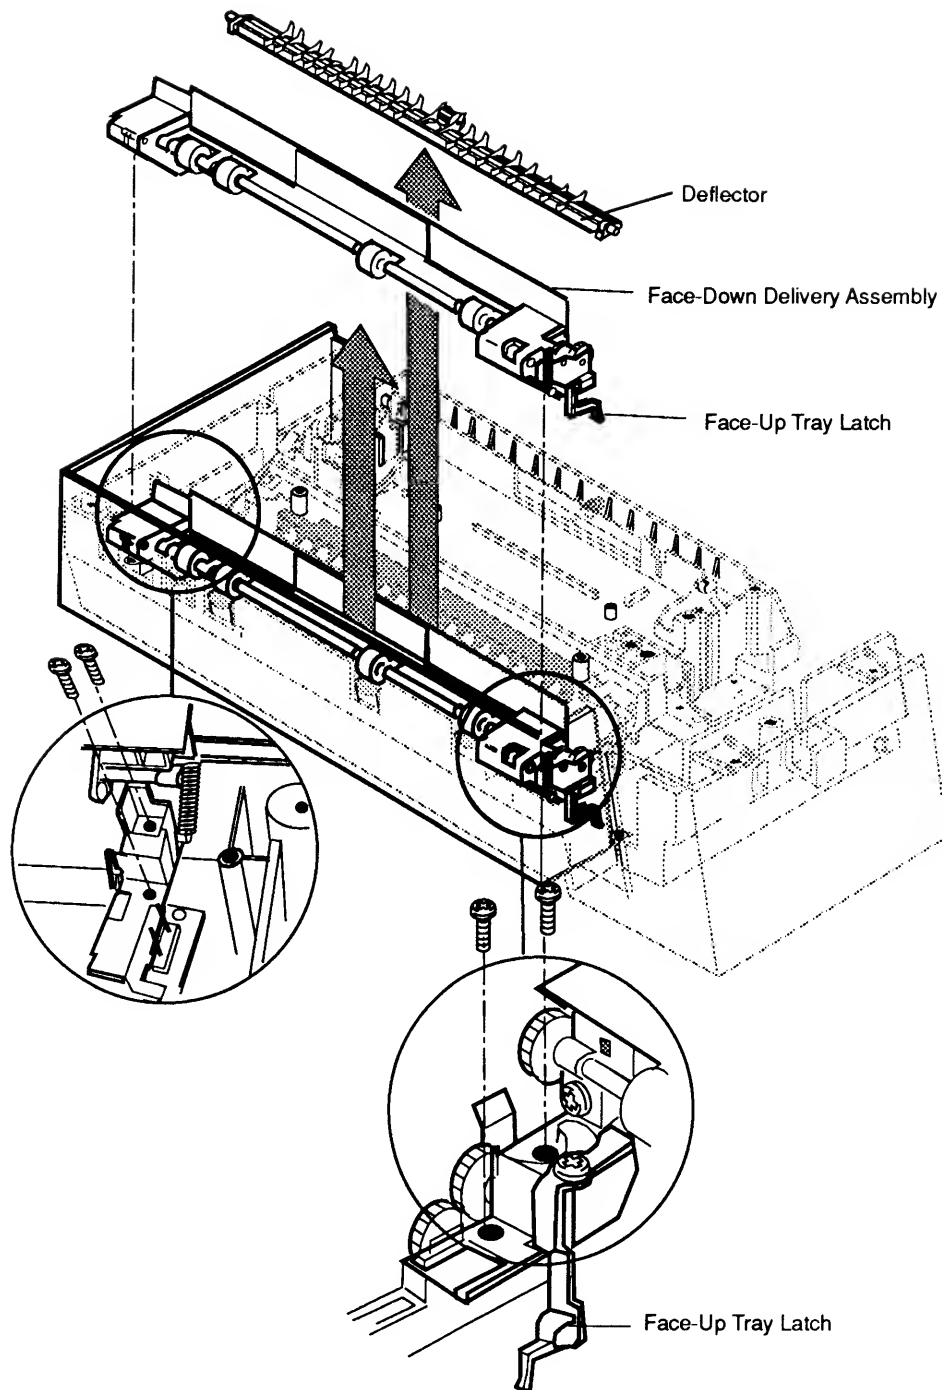

Figure 2-55 Face-Down Delivery Assembly and Deflector
2. Pull back the face-down delivery assembly cover and remove the four silver-colored screws **(Figure 2-55)**.
3. Lift the face-down delivery assembly (and the green face-up tray latch) out of the printer **(Figure 2-55)**.
4. Lift the deflector out of the printer **(Figure 2-55)**.